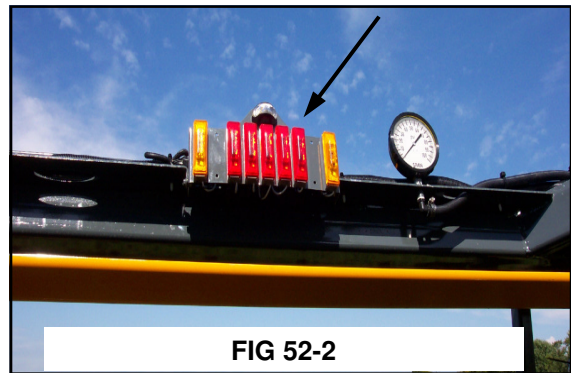

FIG 52-2
**BOOM SOLUTION VALVE L.E.D. INDICATORS**– Boom solution valve status is displayed on the transom by a series of L.E.D. indicators (fig. 52-2). Each indicator light will illuminate if that particular boom solution valve is turned **OFF**.